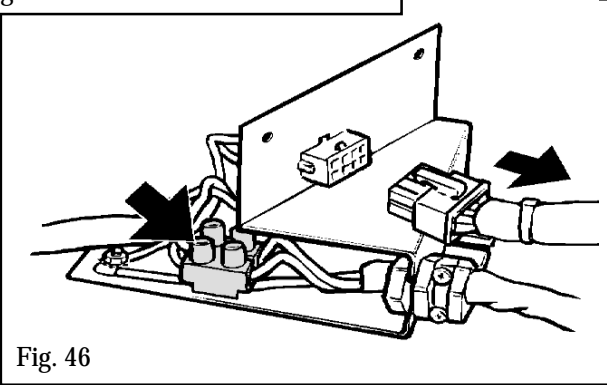

Fig. 46
- Detach the fan wiring loom connection. (see figure 46).
- Disconnect the two leads (Brown & blue) from the mains cable connection block. (See figure 46)